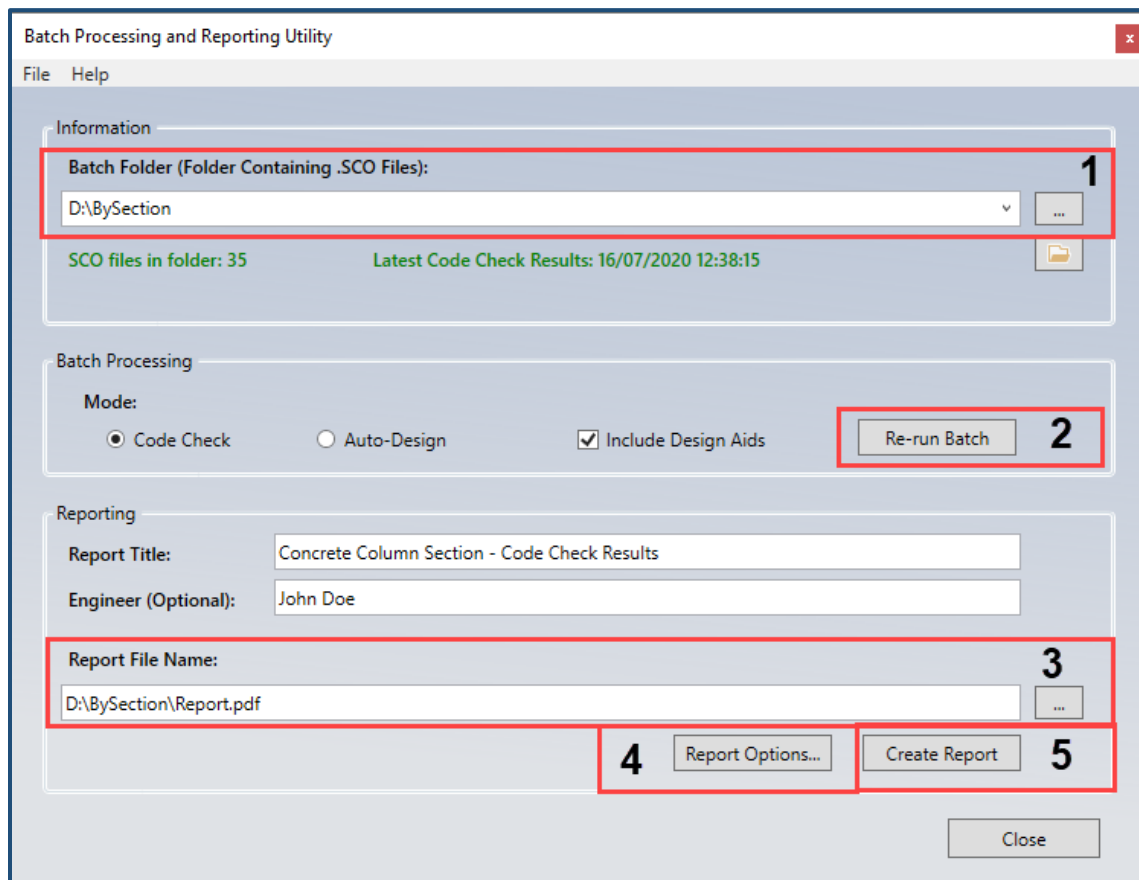
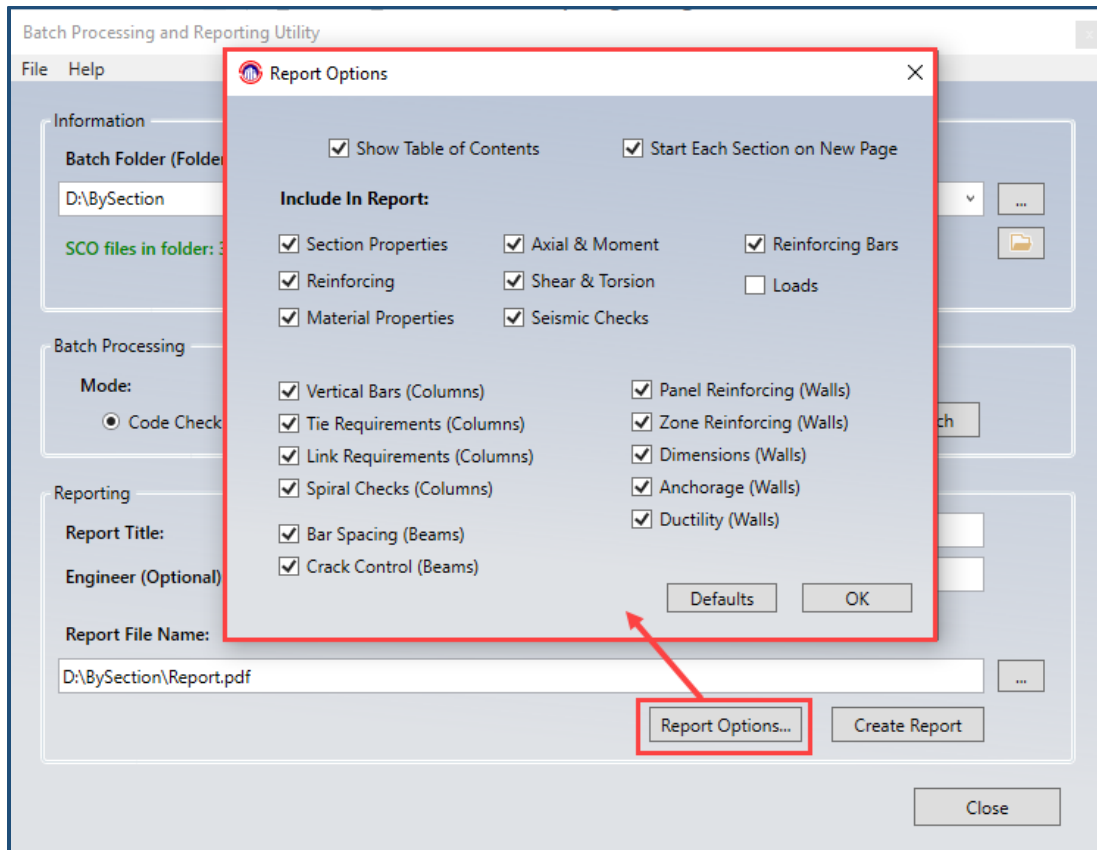

Figure 24. Batch Processing and Report Utility Window
Figure 25. Available Options to print in the Report
**Area 1** of Figure 24, navigate and open the generated folder containing the SCO files of interest. The user can choose the folder containing all SCO files for either Beams, Columns, or Walls. This example shows a total of 35 SCO files.
**Area 2** of Figure 24, you can specify to re-run a batch process for the selected files after deciding to run a ‘Code-Check’ or ‘Auto-Design’
**Area 3** of Figure 24, specify the directory where the Report will be saved.
**Area 4** of Figure 24, the user can filter information that is included or excluded in the report. Figure 25 below, shows the different filters available to the Report before clicking the 'Create Report' command.
**Area 5** of Figure 24, create the PDF report. The report is very similar to the reports generated by S-CONCRETE, but the Multistory Designer report includes data for multiple concrete sections. Figures 26 & 27 shows a report example with hyperlinks to navigate throughout the report to find sections of interest quickly.